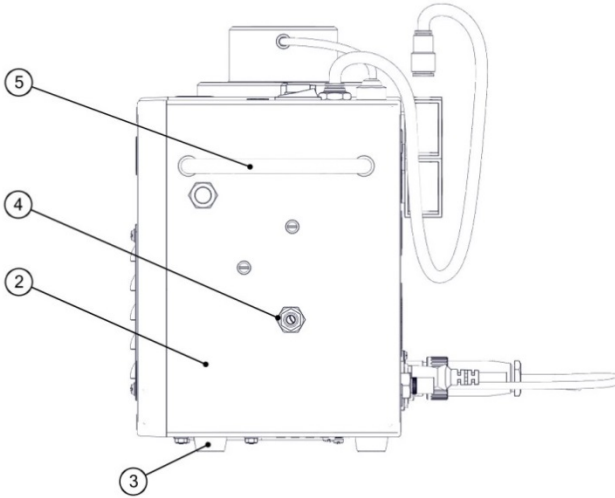

Figure 7.2 Right Side View
12. After the Measuring Tube has been removed from the Quartz Tube, the Measuring Tube will need to undergo a flushing process to remove residual gasses. Place the Plug Coupling end onto the Flushing Tube Connection (Item 4, Figure 7.2) on the right side of the Gas Pressure Measuring Device (see Figure 5.3.7).